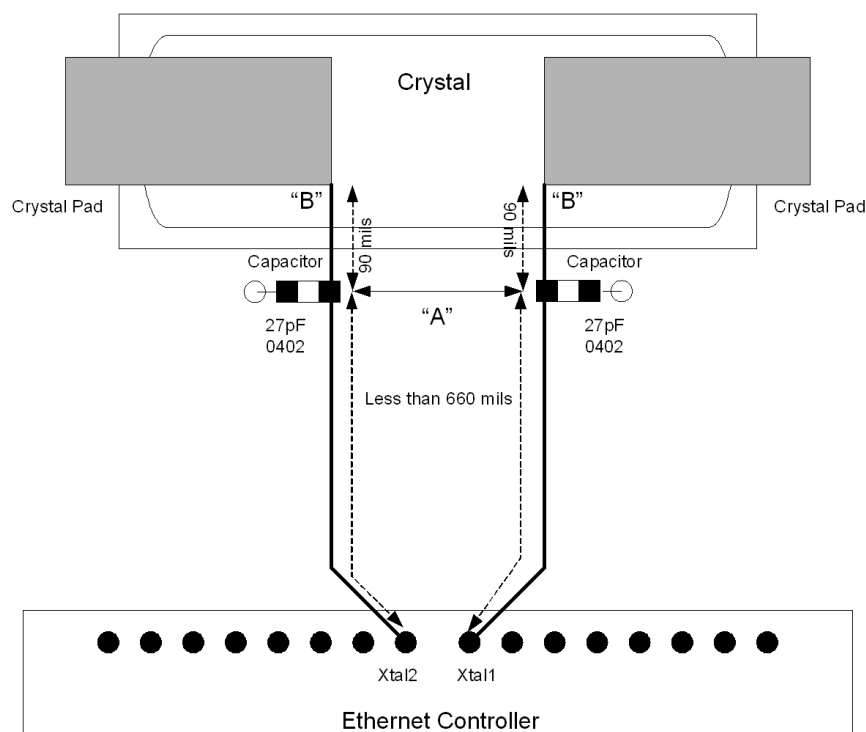

Figure 66. Recommended Crystal Placement and Layout
Figure 66 shows the recommended placement and layout of an internal oscillator circuit. Note that pin X1 and X2 refers to XTAL1 and XTAL2 in the Ethernet device, respectively. The crystal and the capacitors form a feedback element for the internal inverting amplifier. This combination is called parallel-resonant, because it has positive reactance at the selected frequency. In other words, the crystal behaves like an inductor in a parallel LC circuit. Oscillators with piezoelectric feedback elements are also known as "Pierce" oscillators.
- Place load capacitor solder pad directly in line with circuit trace (see Figure 66, point A).
- Route XTAL1 and XTAL2 traces to nearest inside corners of crystal pad (see Figure 66, point B).